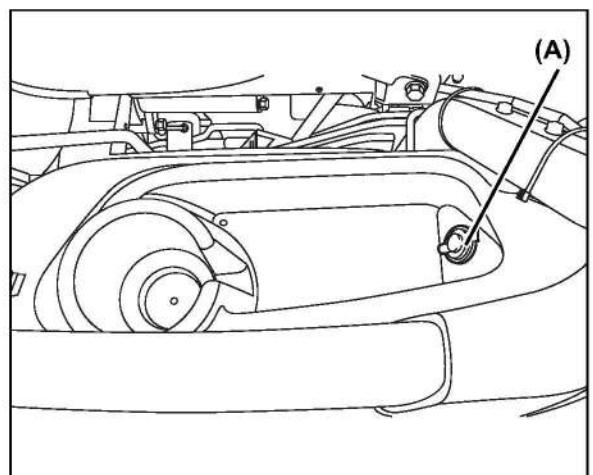

Fig 5-28
### (12) 12V DC outlet (Option) (Fig 5-28)